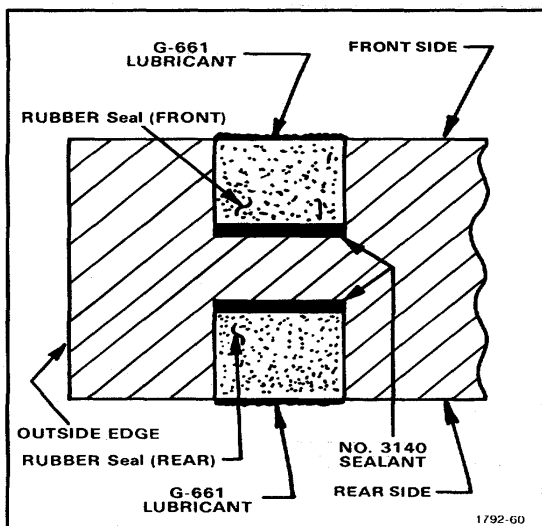

Figure 5-6. Rubber Seals, edge sealing for subpanel.
2. Apply a film of No. 3140 sealant to the inner surface of each groove. See Fig. 5-6. Do not apply the sealant to the other surfaces of the grooves. No.3140 is more fluid than No. 3144 and can be applied with a hypodermic type applicator.
4. Before installing the instrument in a cabinet, lubricate the outer edges of the seals as shown in Fig. 5-6.